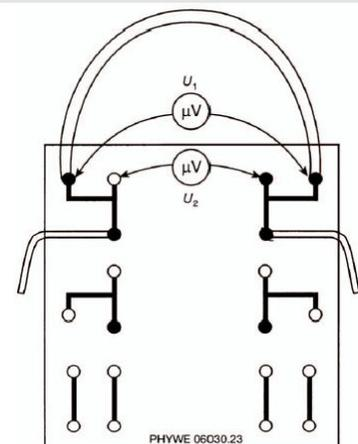

Fig. 3a: Measuring the contact resistance and resistivity of connecting cords: sketch of the set-up
2. Connect a connecting cord into the circuit in place of the metal rod, using two double sockets with cross hole (Fig. 3a). Connect the voltmeter to the sockets of the connecting cord connector (similar to the four-wire method; measuring U_1 as shown in Fig. 3). The voltage drops not only across the pure line resistor R_1 but also across the two line/plug contact resistors R_{1p} as well.